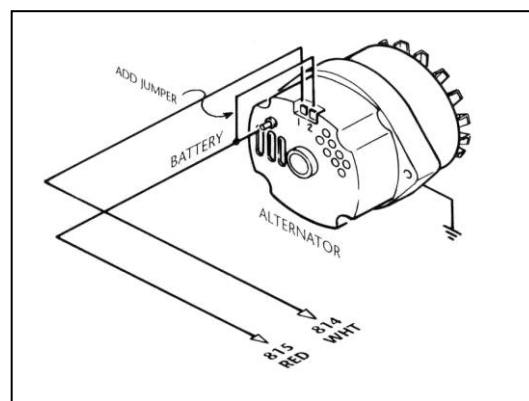

Figure 6.2 Late GM alternators with internal regulator
- Connect a 16-gauge ground wire from the Alternator Ground lug (G) to chassis ground.
6.2.2 Late GM Alternator (after 1972) Internal Regulator. See **Figure 6.2**.